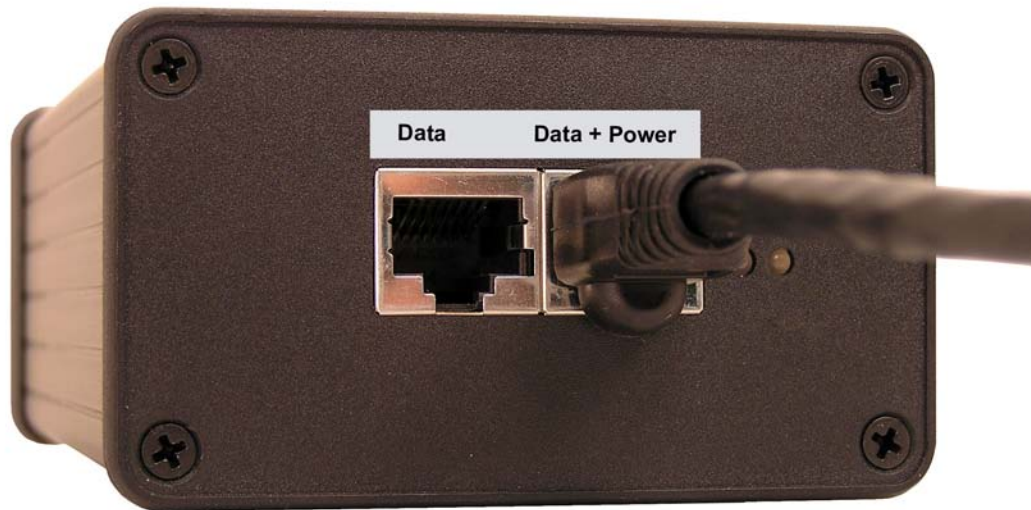

Figure 3-23: Connect the Access Point
- 3) Insert the RJ-45 plug from the outdoor Access Point into the RJ-45 receptacle, labeled **Data+Power**, on the DC PSU/NIA (Figure 3-23:).